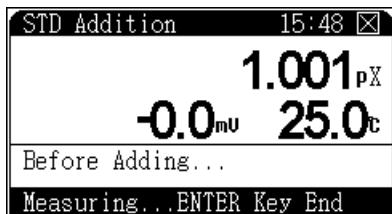

Figure 31 Before adding
- 6 Press [**Enter**] to perform the standard addition measurement. The meter displays current potential, temperature and pX value. See Figure 31.